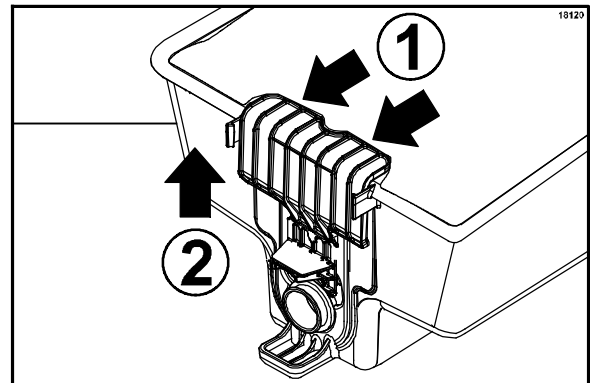

Figure 25
- Move the bin slide to the "open" position by (1) pulling the slide slightly away from the bin and (2) up, until it stops. Remove and discard the empty product bag. (See Figure 25.)